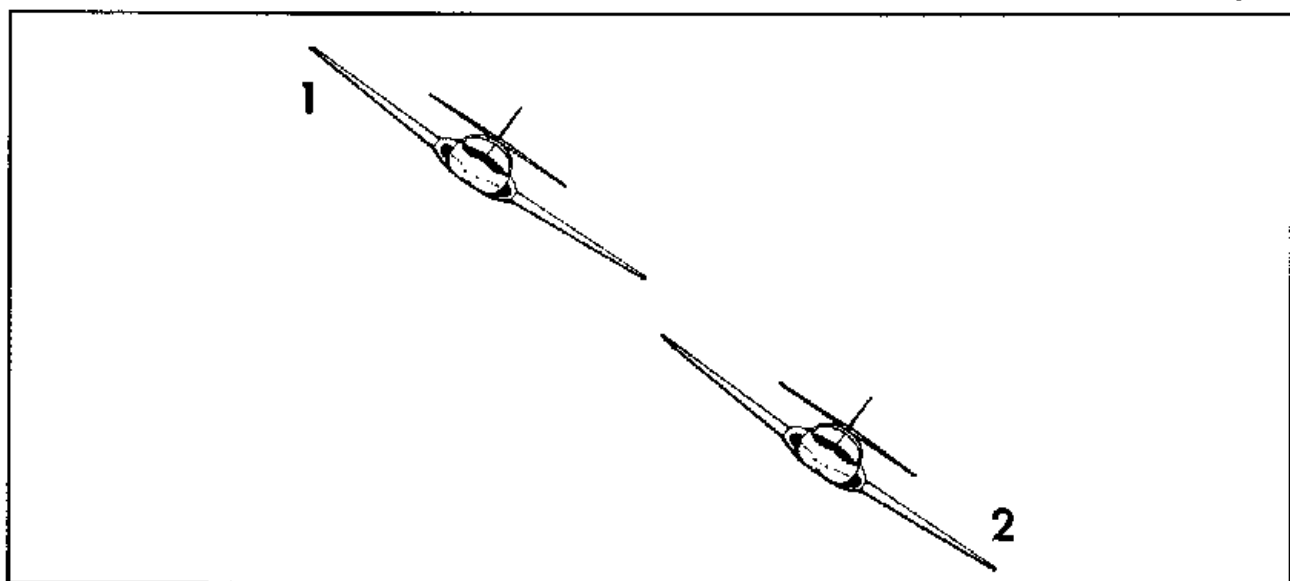

Figure 8.3. Turn-Into Position.
8.13.2. Technique. Good formation is the result of anticipation, planning, and the application of small corrections. Detect shifts in position promptly and stay in formation. Always keep the aircraft trimmed and coordinated. This is one of the most important fundamentals of good formation flying. In turns, the wingman maintains the same relative position as in level flight with respect to lead (figures 8.3 and 8.4). As the wingman, when lead turns away from you, increase back pressure and climb to maintain your vertical position. This requires an increase in power to maintain your airspeed and position on the 30° line. When lead stops the roll in, you have to take off some of the power you added because you are no longer climbing. When lead turns toward you, add slight forward pressure to maintain vertical position and reduce power to stay on the 30° line. Be aware of collision potential at all times. In turbulence, while flying maximum performance maneuvers or maneuvers which are not frequently flown (for example, pushovers at less than 1 G), the collision potential increases. During pushover maneuvers, your ability to counteract movement toward lead will be limited with near zero or negative Gs. For example, bank alone in 0 G conditions will not produce a heading change. Under these conditions, avoid wingtip vortexes because a rapid roll into the leader may develop. Should a breakout become necessary, use rudder, aileron, power, and speed brake as the situation dictates. Break out in the direction that will ensure immediate separation.